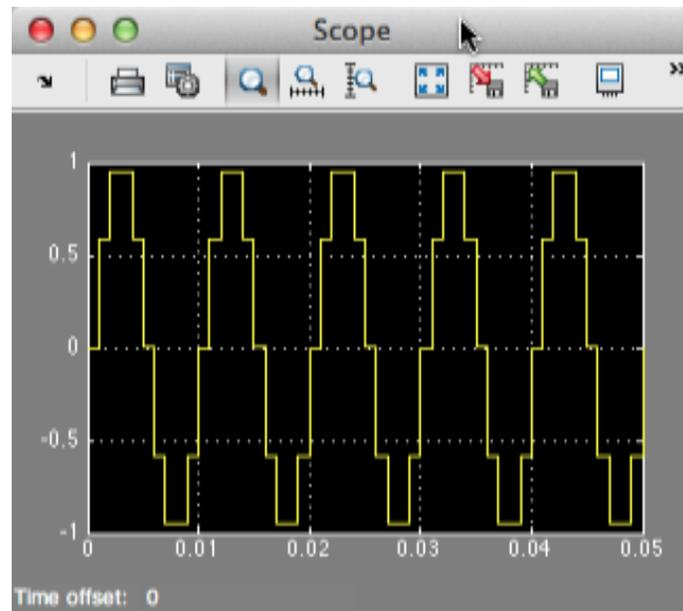

Figure 6. Scope Display
10. In the model window select Simulation → Configuration Parameters. Since the period of a cycle is 10ms, if we want to view 5 cycles we need to simulate for 50ms or 0.05 seconds. Enter 0.05 in the Stop time and click OK. Select Simulation → Start. You will hear a beep when the simulation is complete. Double click on the Scope icon and it will open and display the output of the sine wave block. Try clicking on the Autoscale icon in the Scope window. This should cause the axes to readjust as shown in figure 6